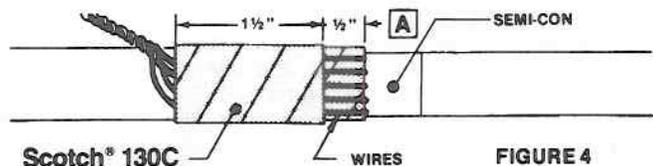

FIGURE 4
5. Beginning 1/2" on exposed wires tightly wrap one half-lapped layer of 130C Tape over wires 1-1/2". See Figure 4.